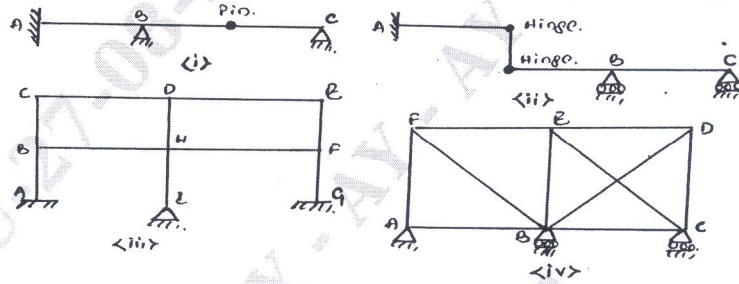

Fig.Q1(c)
c. Determine the degree of static indeterminacy for the following structures [Refer Fig.Q1(c)]